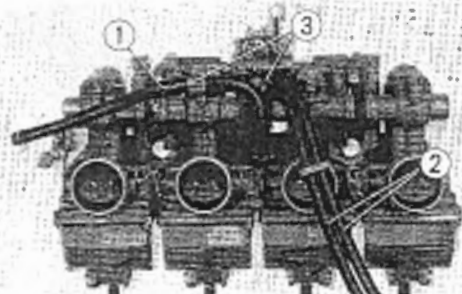

Fig. 3-92 ① Fuel tube ③ Clips
4. Install and route each carburetor tube as shown in Fig. 3-92.
5. Move the throttle lever until it contacts the adjusting screw, and check the throttle valve-to-throttle bore clearance (L). If out of specification (0~1.0 mm/0~0.04 in.), adjust the clearance by means of the adjusting screw.